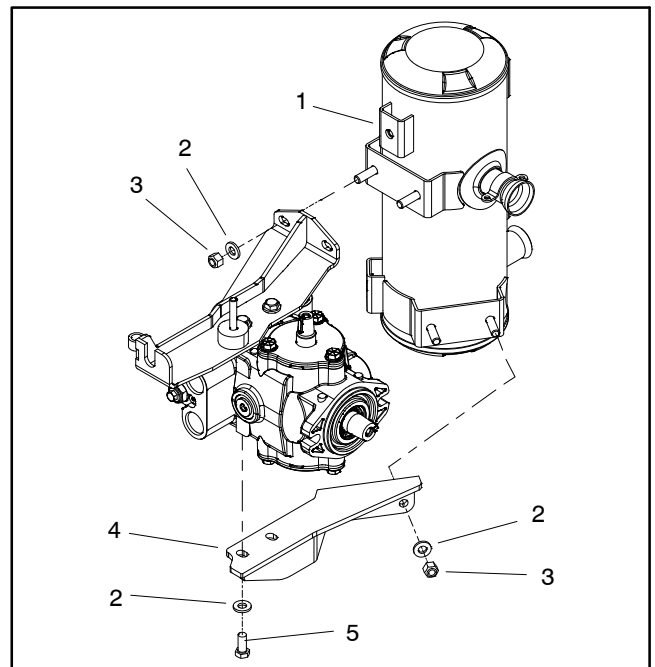

Figure 43
2. Remove muffler to allow pump removal (Fig. 43). Refer to Exhaust System in the Service and Repairs section of Chapter 3 – Diesel Engine for additional information on muffler removal.
C. Secure pump assembly to bellhousing with two (2) cap screws (item 12) and flat washers (item 7).
11. Install muffler (Fig. 43). Refer to Exhaust System in the Service and Repairs section of Chapter 3 – Diesel Engine for additional information on muffler installation.